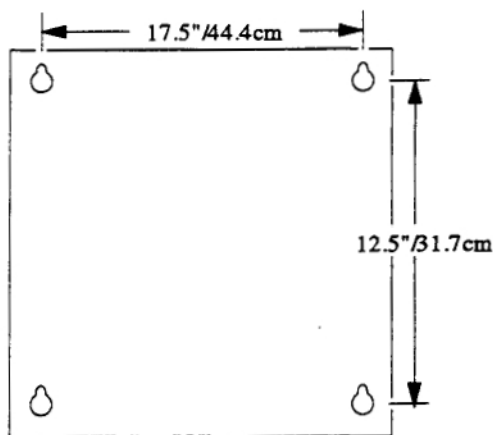

Figure 4 - Superterm Cabinet Mounting Hole Dimensions
2. Mark the four mounting holes against the mounting surface using the Superterm cabinet as a template or using the measurements provided in Figure 4.